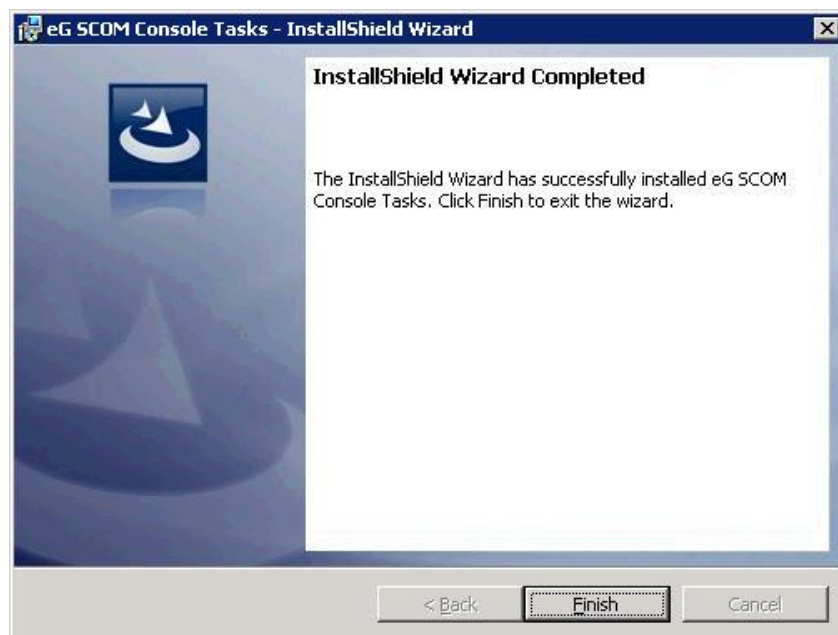

Figure 2.23: Completing the installation
7. Upon completion of installation, click the **Finish** button in Figure 2.23.